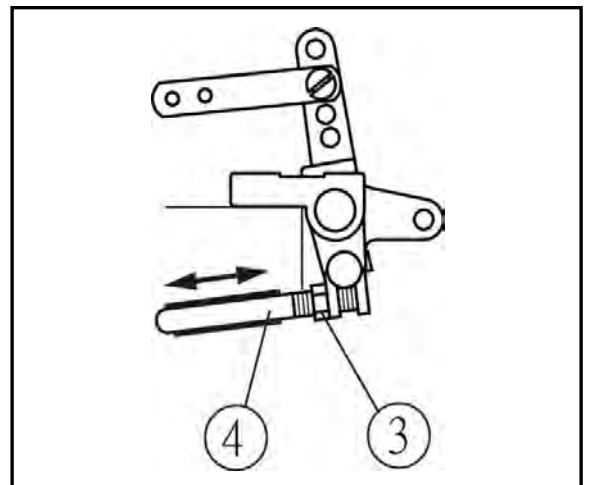

Fig. 10
- (1) Loosen the lock nut ③ .
- (2) Move the presser foot lifter stop plunger ④ in or out to adjust the clearance. (Fig. 10)